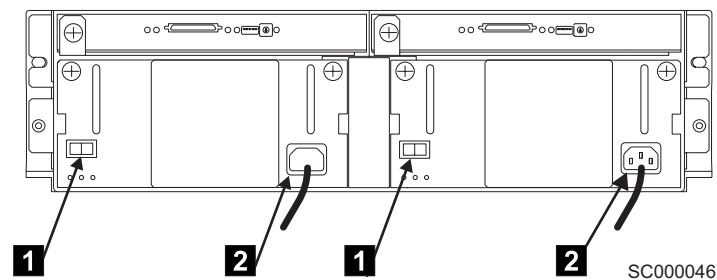

Figure 44. Removing the power from a 2104 Model DS4
2. Set the dc on/standby switch **1** of each fan-and-power-supply assembly to standby, as Figure 44 shows.